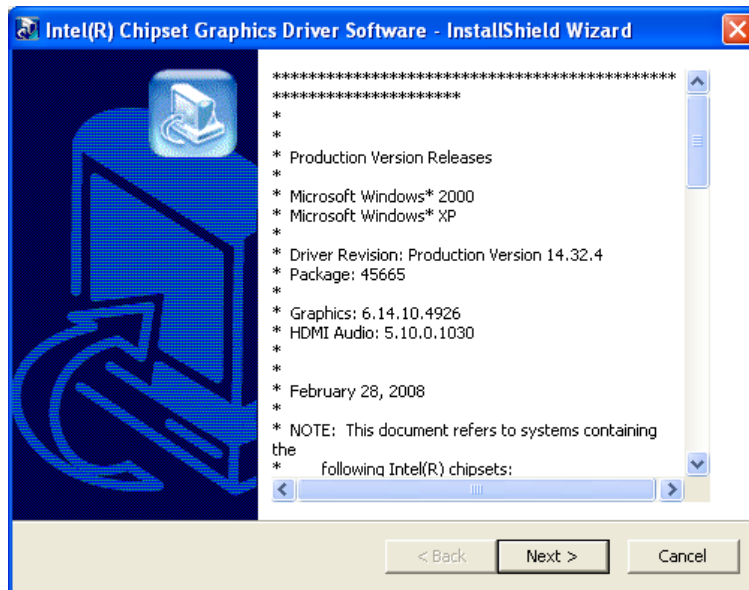

Figure 6-7: VGA Driver Read Me File
Step 3: The VGA Read Me file in **Figure 6-7** appears.